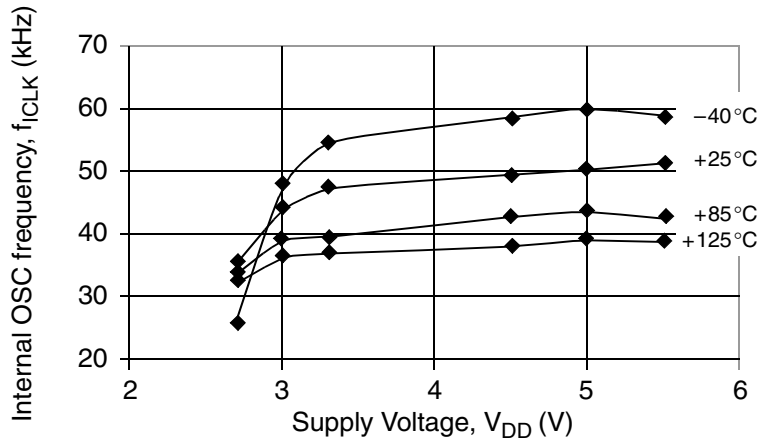

Figure 19-3. Internal Oscillator Frequency
1. Typical value reflect average measurements at midpoint of voltage range, 25 °C only. See Figure 19-3 for plot.